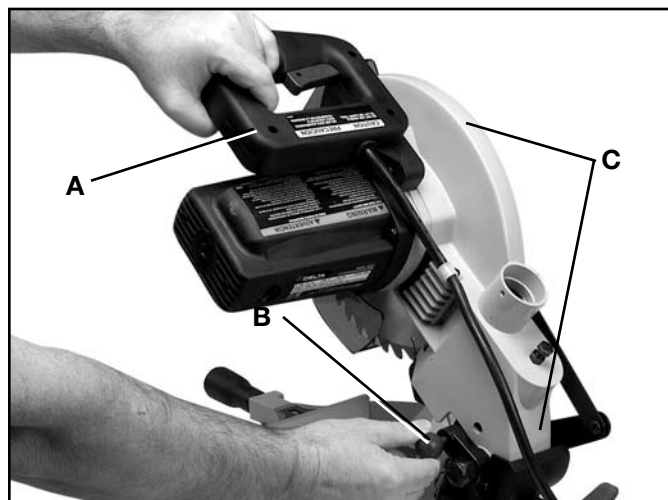

Fig. 3
1. Push down on handle (A) Fig. 3, to release spring pressure. Then pull out cuttinghead lockpin (B) and move cuttinghead (C) to the raised position.